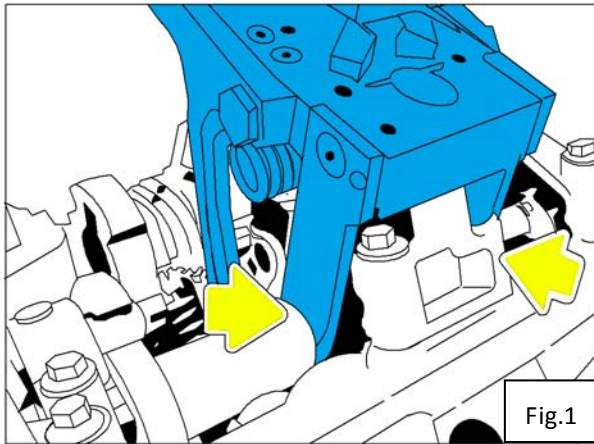

Fig.1
1. Aim and fit the slots of H.C.B-A1699-01 at the balance shaft bearing (Fig.1)